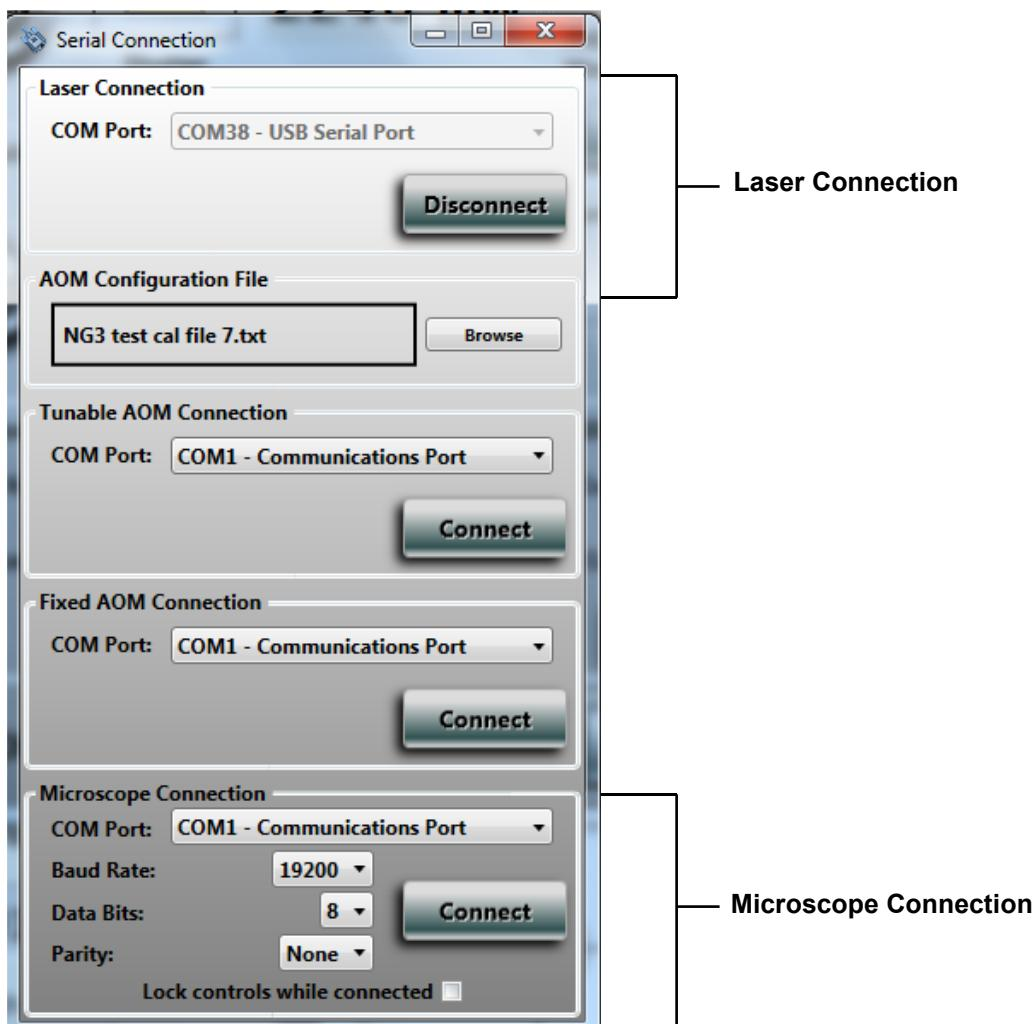
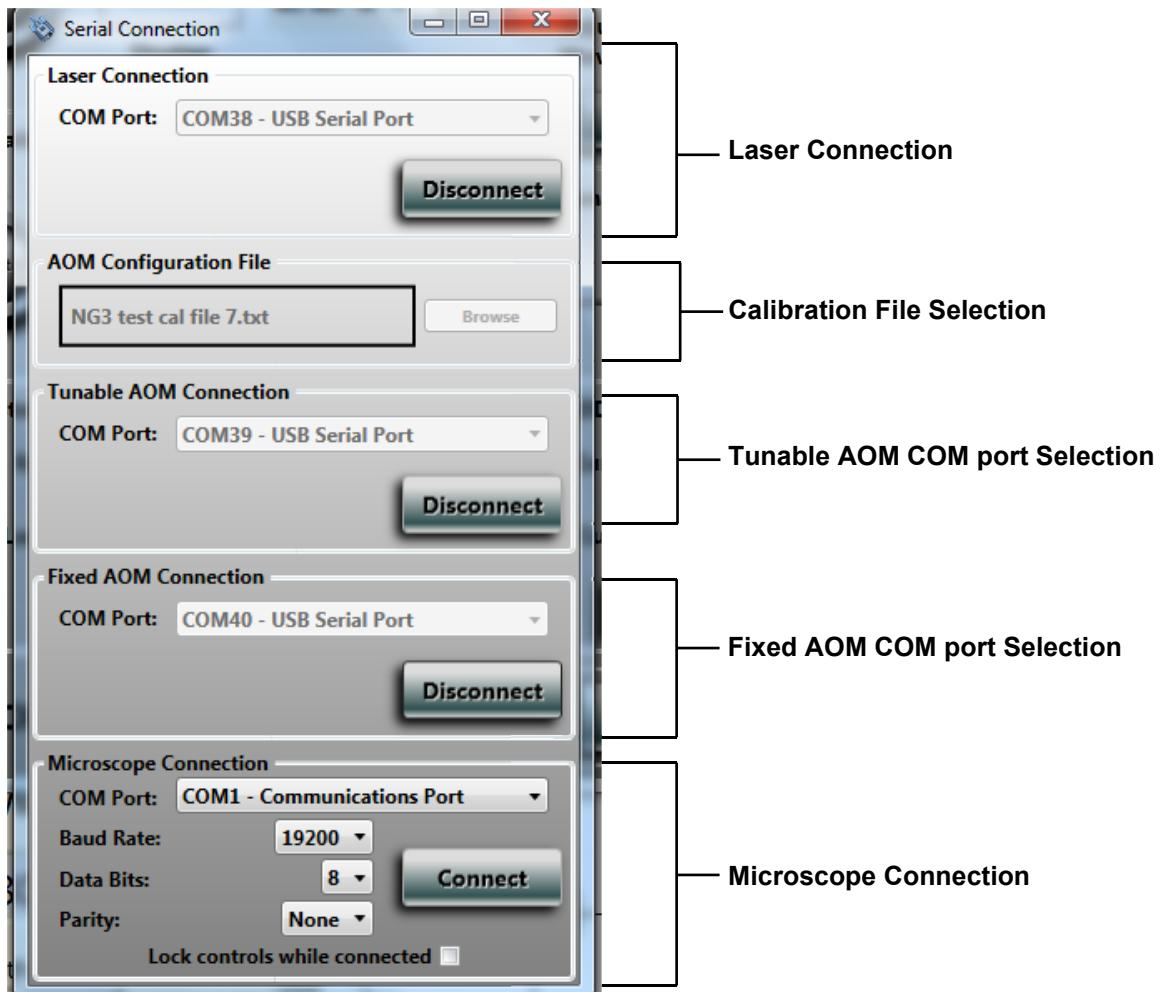

Figure 4. Connections Menu
Figure 17. Connections Dialog (TPC)
2. Return to the “Connections” dialog first introduced in Figure 4. See Figure 17 below for connection details with the TPC.
3. Browse to and select the system-specific calibration file in the “AOM Configuration File” section. This is a factory-set lookup table for RF power and frequency and will be supplied in text format by your Coherent representative. Example shown in Figure 17.
4. The COM ports to the AOMs will now become available. Select the correct COM port for the Tunable and Fixed AOMs. Example shown in Figure 17.